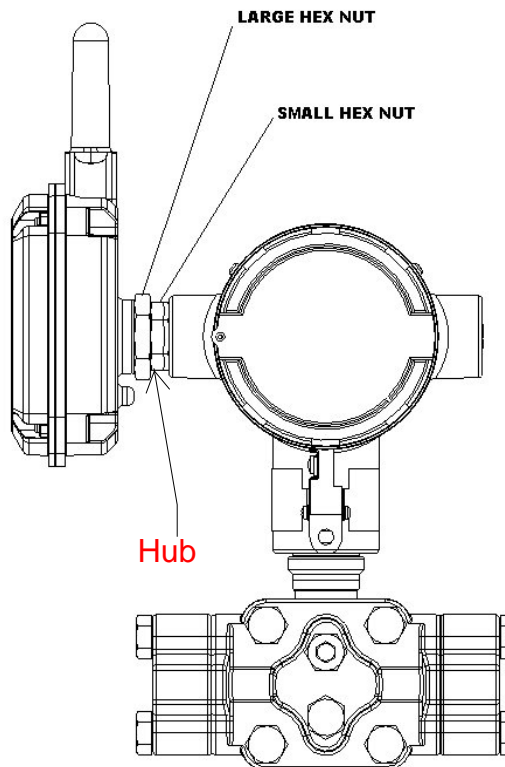

Figure 3-2
4. Insert wires through conduit entry of the unit to which it is to be mounted then start to thread the adapter hub into the conduit entry. Use the hex on the adapter hub (smaller hex - See Figure 3-2)) to securely tighten the adapter hub to the unit. To reorient the antenna of the adapter loosen the jam nut (Turn larger hex nut CC when looking at the front of the OWA 100 Adapter) and rotate the unit to the desired antenna location then retighten the jam nut. Note: The rotation of the unit is limited to 350 degrees.